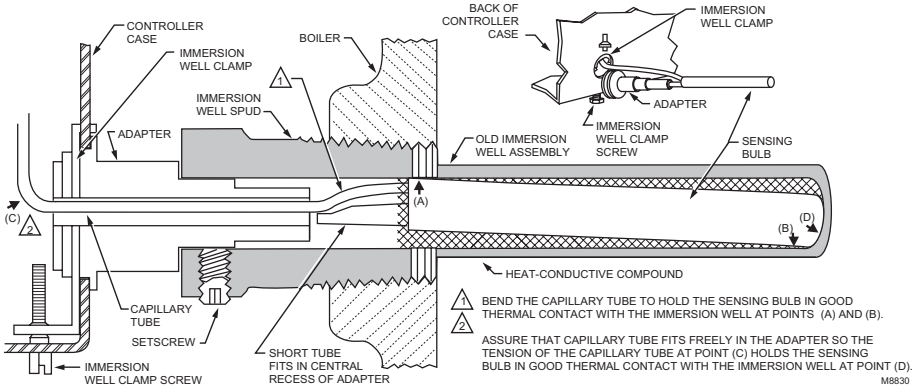

Fig. 3. Positioning the sensing bulb in the immersion well.
Be sure that the sensing bulb fits snugly inside the immersion well and that the sensing bulb rests against the bottom of the immersion well. If the sensing bulb does not fit snugly inside the immersion well, use the heat-conductive compound as described below. See Fig. 3.
3. Fasten R8182D immersion well clamp to flange on immersion well adapter. See Fig. 3.
- Loosen the immersion well clamp screw. See Fig. 3.